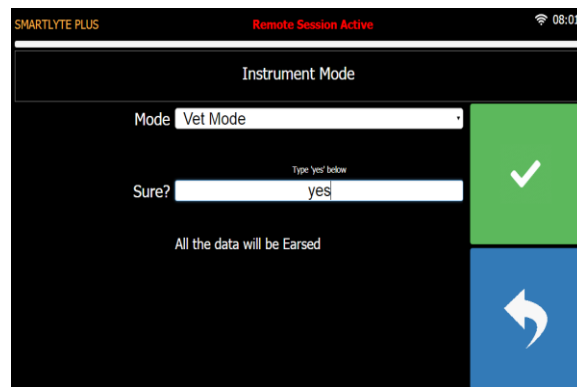

Figure 8-10 Instrument Vet Mode
- Press  to make the change. (Figure 8-10)